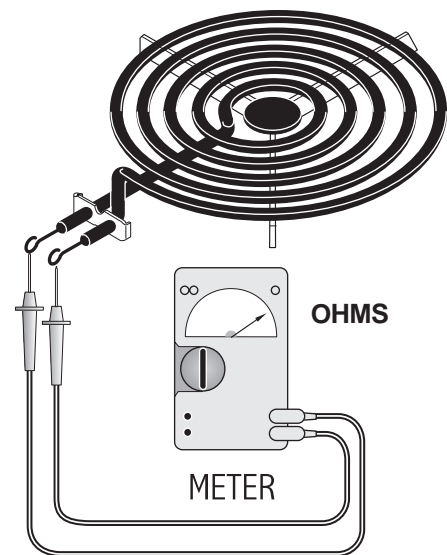

Figure 3
3. Set ohmmeter to R X 10 scale and attach meter leads to element. A low OHMS reading (continuity) should be indicated, and this reading may vary slightly on each element tested. If infinite OHMS (open) is indicated, element must be replaced (see Figure 3).